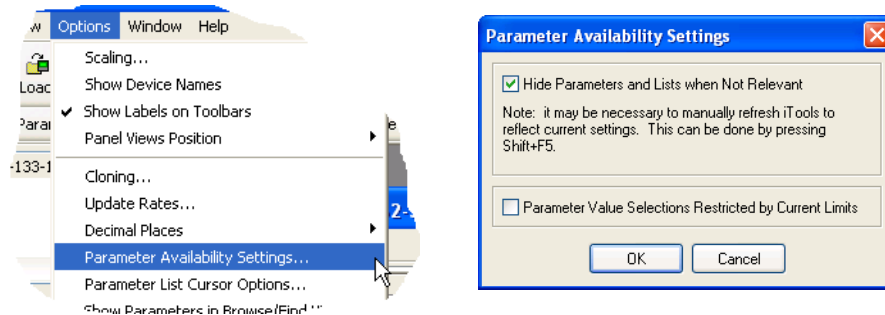

Figure 52 Show/Hide parameters
- Hidden Parameters. By default, iTools hides parameters which are considered irrelevant in the current context. Such hidden parameters can be shown in the table using the 'Parameter availability' settings item of the options menu (Figure 52). Such items are displayed with a shaded background.